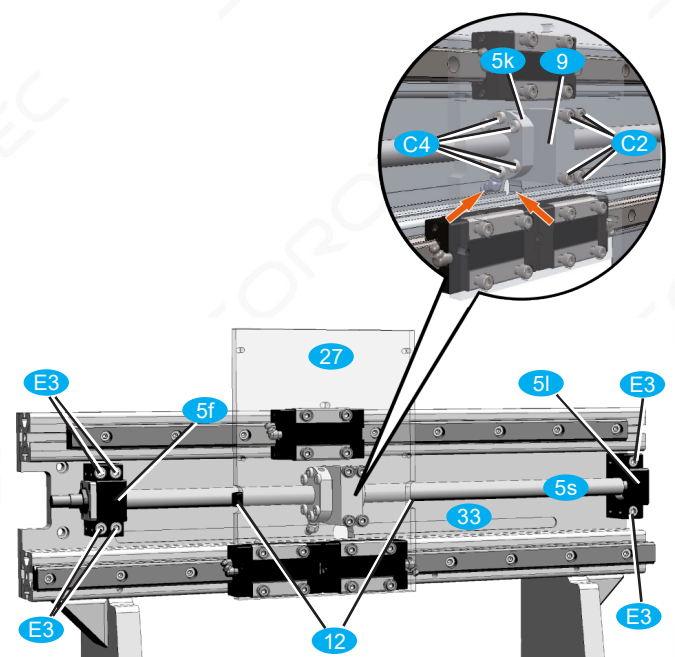

Fig. 18: Installation of the Y spindle
- Tighten the grease fitting on the ball nut **5k** so that it faces the opening in the gantry beam (red arrows in Figure 18).
- Degrease the adhesive surfaces and stick the rubber pads **12** on both sides of the sled Y (see Figure 18).